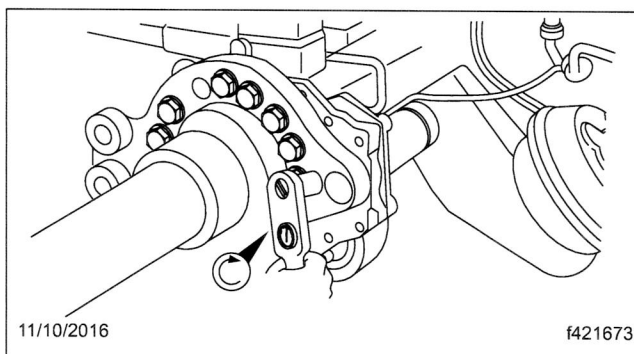

Fig. 5, Tightening the Brake Spider Fasteners
4. Place the brake spider on the axle flange. Install the mounting fasteners with hardened washers under the bolt head and nut. Tighten the nuts to the specifications in Table 1 in a cross pattern. See Fig. 5.